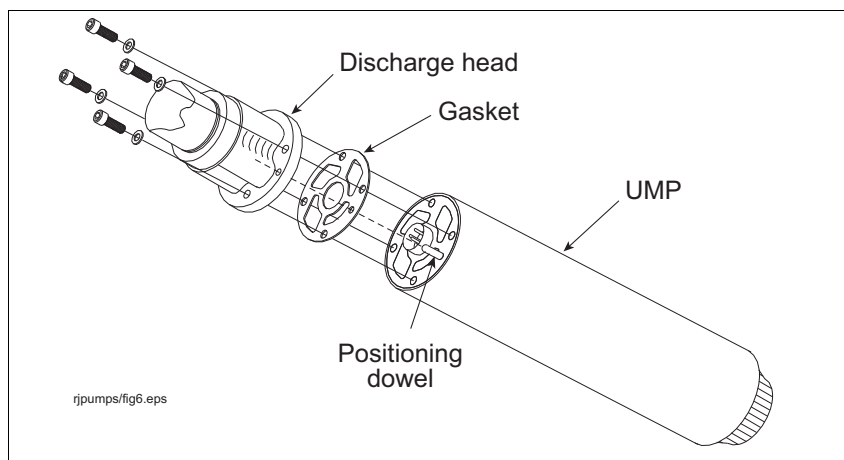

Figure 8. Aligning The UMP Gasket
2. Place the new gasket on the new UMP so that all holes align (see Figure 8).
4. Install the UMP retaining bolts and lock washers (see Figure 8). Snug and then torque the bolts using a cross pattern technique. Torque to 7 ft-lbs (11 N•m).